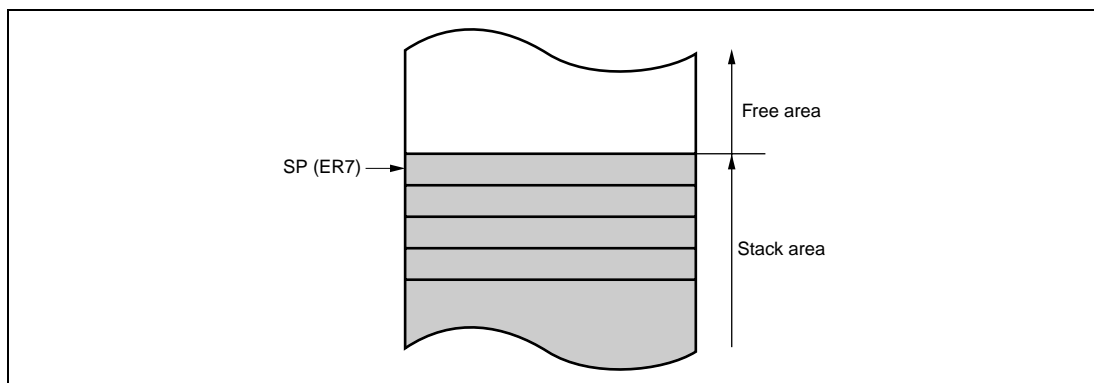

Figure 2.4 Relationship between Stack Pointer and Stack Area
General register ER7 has the function of stack pointer (SP) in addition to its general-register function, and is used implicitly in exception handling and subroutine calls. Figure 2.4 shows the relationship between stack pointer and the stack area.